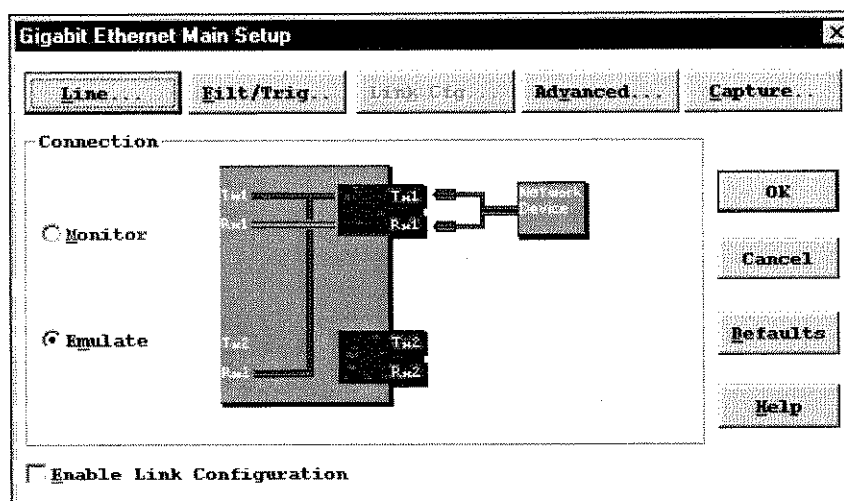

Figure 2-4. Gigabit Ethernet Main Setup dialog box
2. From the Gigabit Ethernet Main Setup dialog box (Figure 2-4), you can disable link configuration, select the **Connection** mode, or choose a command button to make changes to other setup options.